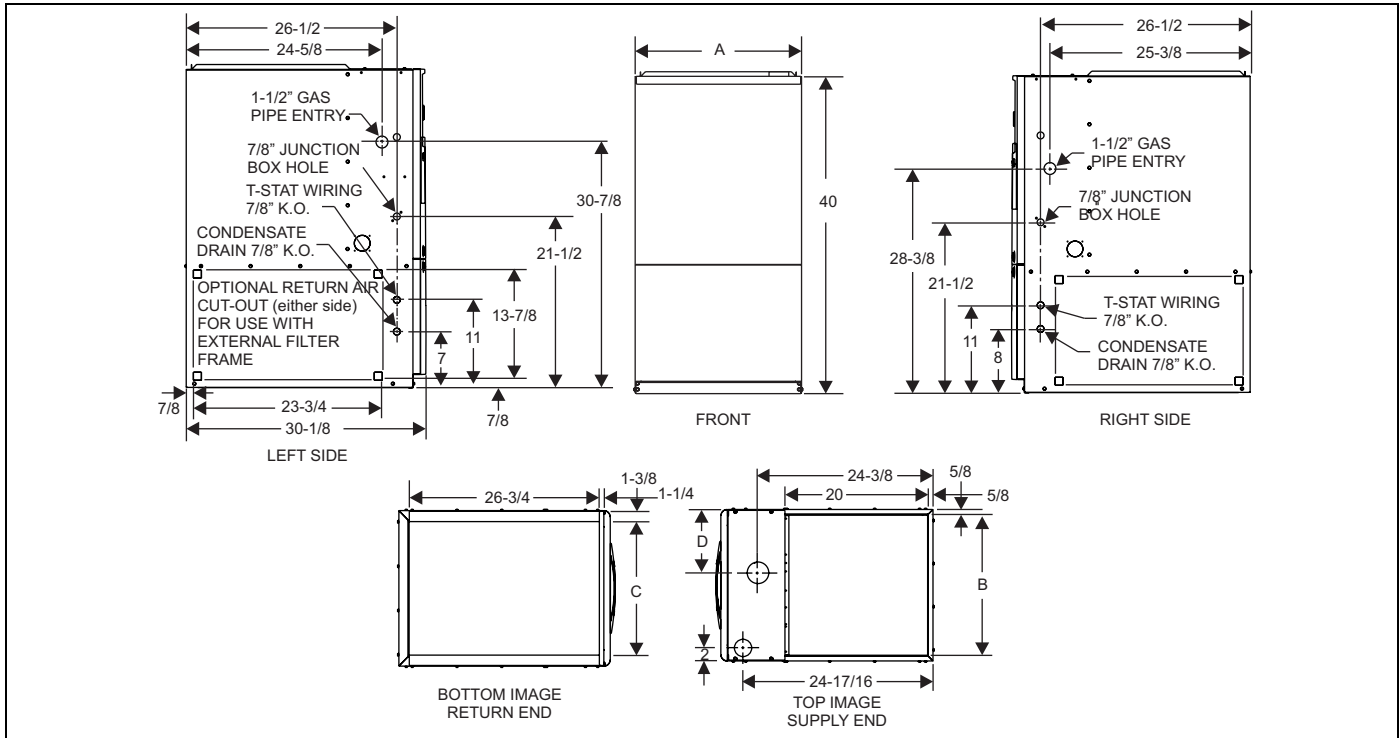

FIGURE 1: Dimensions
4. Bend the 3/4" flanges that will be used to attach the return air plenum using the scribe marks in the furnace base. Refer to Figure 1 "Bottom Image Return End".
5. Be sure to seal the furnace to plenum connections to prevent air leakage. Refer to Figure 1 for unit and plenum dimensions.
Locate and mark the side return opening. Refer to Figure 1 for dimensions of the cutout.
IMPORTANT: Some accessories such as electronic air cleaners and pleated media may require a larger side opening. Follow the instructions supplied with that accessory for side opening requirements. **Do not** cut the opening larger than the dimensions shown in Figure 1.
Gas piping may be connected from either side of the furnace using any of the gas pipe entry knockouts on both sides of the furnace. Refer to Figure 1 dimensions.